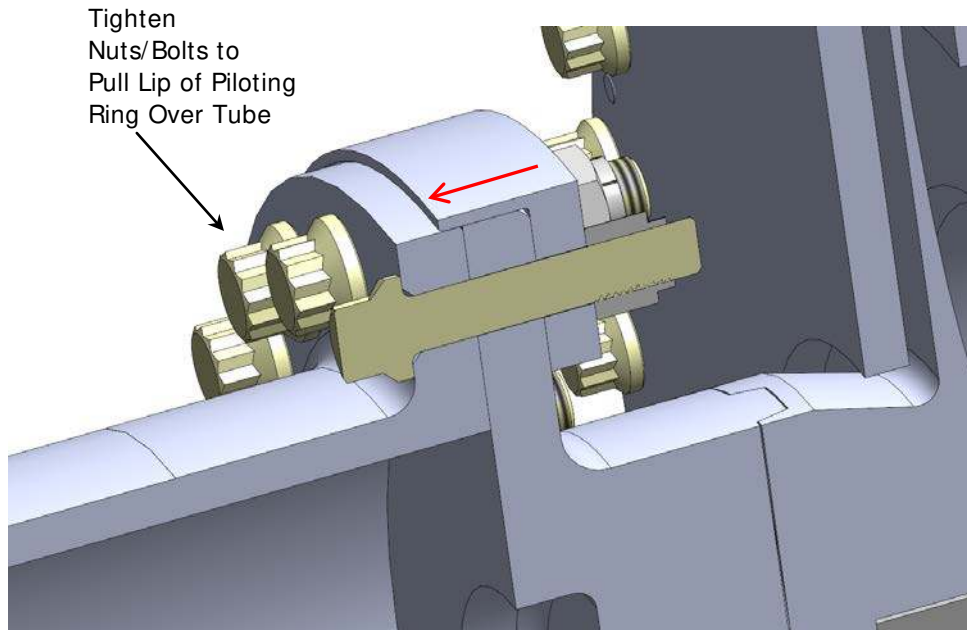

Figure 13 – Piloting Ring Fit Over Tube OD
4.2.3 While supporting the weight of the tube, tighten the bolts/nuts a few turns at a time in a criss-cross pattern to draw the piloting ring over the tube flange evenly (see Figure 13). Install the remaining bolts and nuts and torque evenly in a criss-cross pattern to the torque shown on drawing HC-6480.